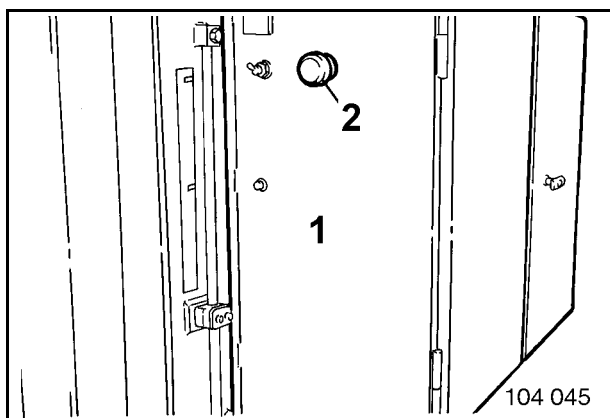

Fig. 2-22:
- in the control cabinet (2, Fig. 2-22:)